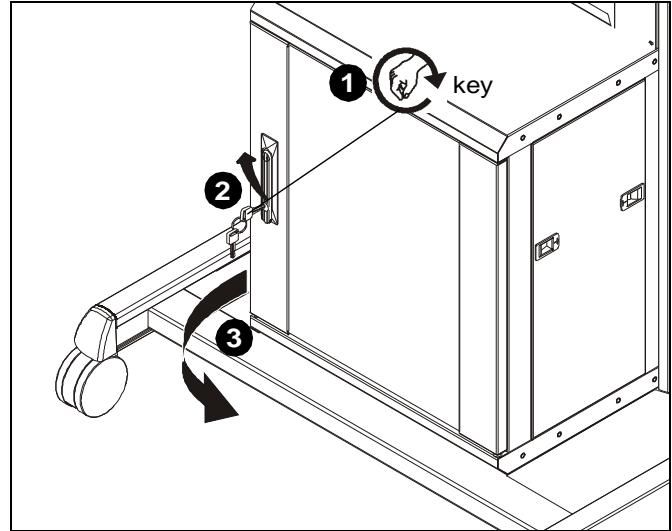

Figure 23
1. Insert key into handle keyhole and turn. (See Figure 23)
2. Lift up handle and turn to free inside latch. (See Figure 23)
3. Pull door open. (See Figure 23)